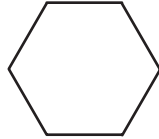

**Figure 3**
1. Place mount assemblies on tool bar as shown in photo 3. Refer to figure 3 for parts and assembly diagrams.